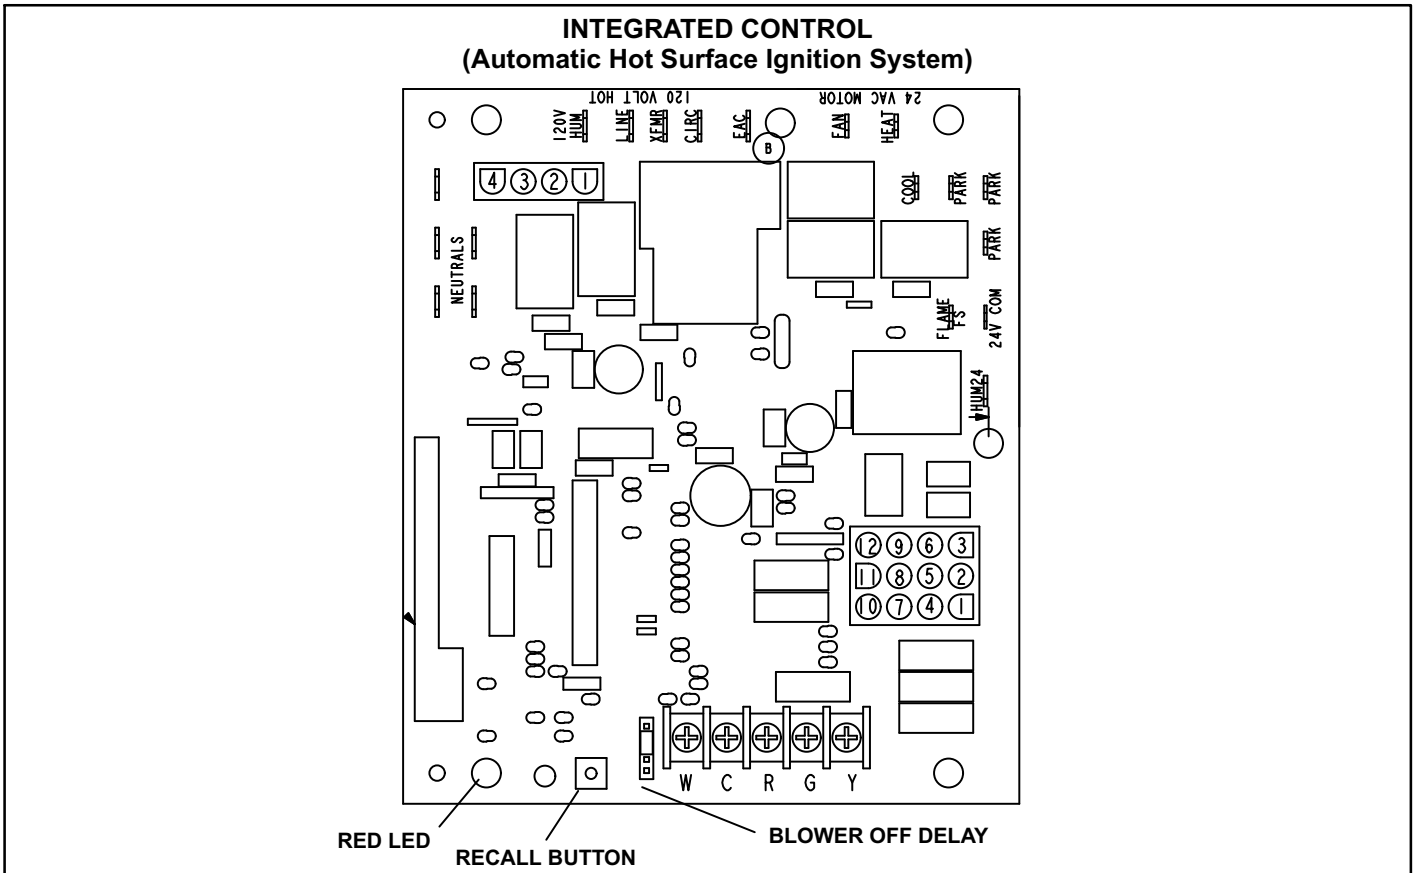

FIGURE 3
The hot surface ignition control system consisting of an integrated control (figure 3 with control terminal designations in tables 1, 2 and 3), flame sensor and ignitor (figure 6). The integrated control and ignitor work in combination to ensure furnace ignition and ignitor durability. The integrated control, controls all major furnace operations. The integrated control also features a RED LED for troubleshooting and two accessory terminals rated at (1) one amp. See table 4 or 5 for troubleshooting diagnostic codes. The nitride ignitor is made from a non-porous, high strength proprietary ceramic material that provides long life and trouble free maintenance.